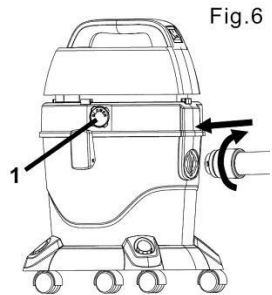

Fig.6
Step 6: Insert the hose insert into the barrel (for vacuuming function) or in the “blower” hole (1) located in the main body (for blower function). Gently rotate to the right to lock the hose in place and make sure it fits tightly (Fig. 6).